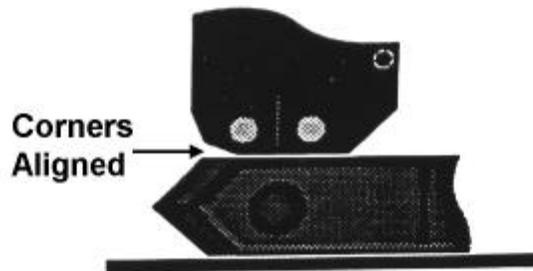

Figure 5-3. Near Tunnel Final Position for Shuttle Timing Procedure
4. Check to make sure the shuttle in the near tunnel is in its correct final position. This is shown in Figure 5-3. The two edges need only align to within 1/16".